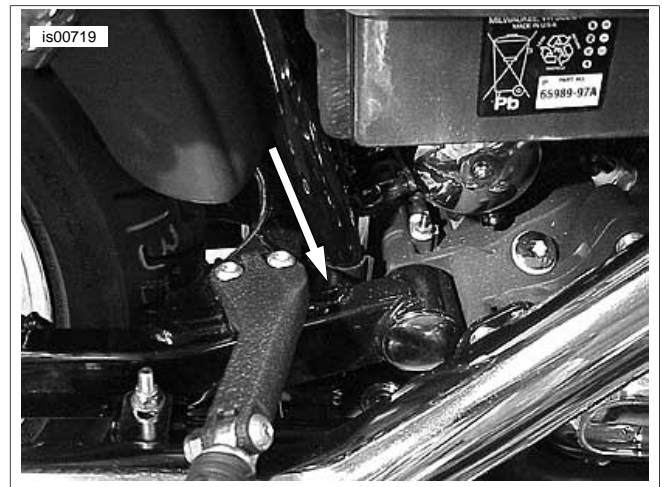

Figure 8. Rear Leverage Points (Right Side Shown, Left Side Similar)
3. See Figure 8. Using a suitable tool wrapped in a clean, soft cloth, between the swingarm and frame, as indicated by the arrow, move the rear wheel to the left or right, as necessary, to provide clearance for the gauge.